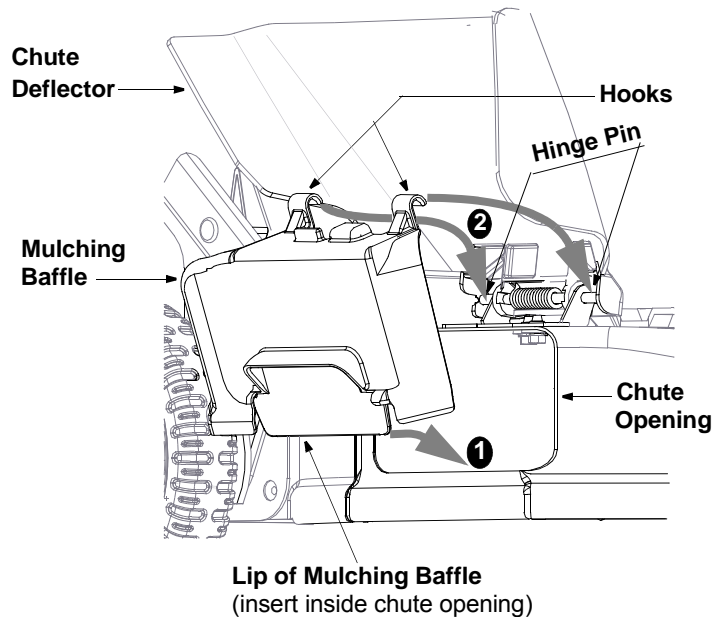

Figure 5
2. Insert bottom lip of the mulching baffle **inside** the chute opening (marked 1 in Figure 5).
3. Snap hooks of the mulching baffle over the hinge pin of the chute deflector (marked 2 in Figure 5). The hooks must snap into place on the hinge pin, locking the mulching baffle firmly onto the mower. Release the chute deflector.